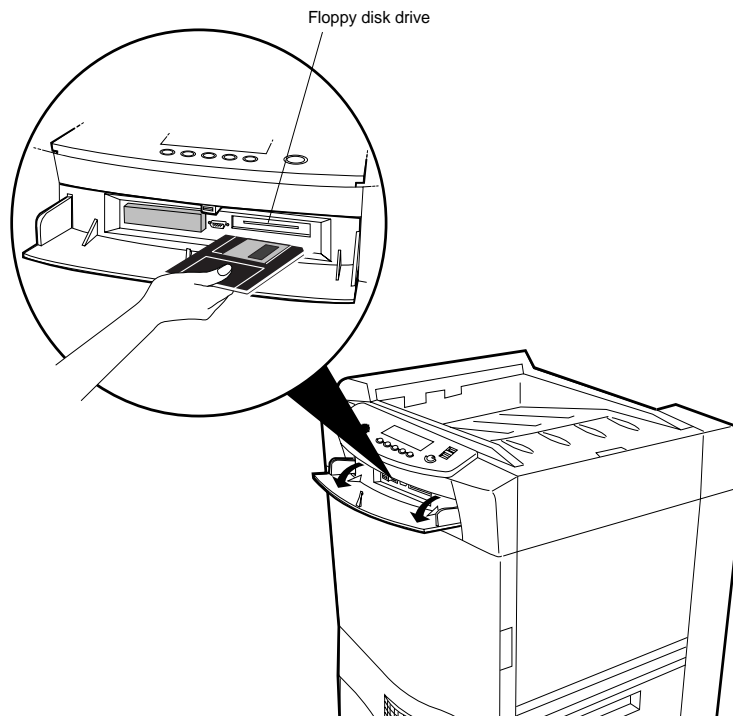

Figure 4-43 Installing Diskette
2. Open the front cover and locate the floppy drive. Insert the diskette, as shown in Figure 4-43.